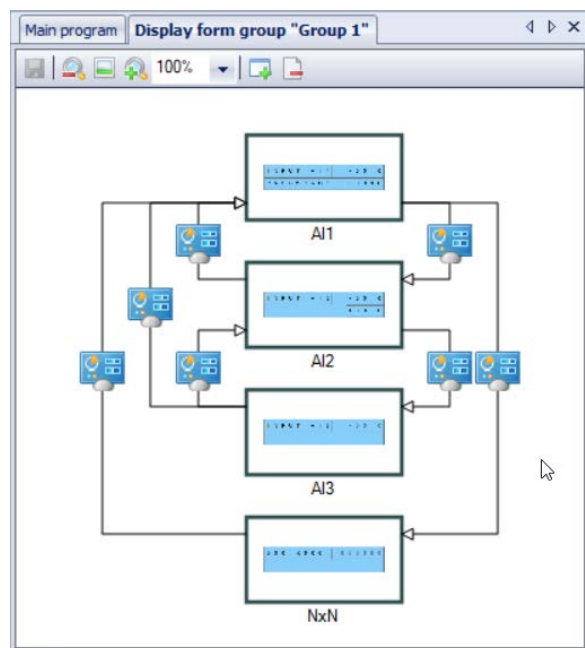

Fig. 8.2 Structure Editor
- In Structure Editor, use the toolbar icon  (Fig. 8.2).
- In Structure Editor, use the toolbar icon  or the context menu (Fig. 8.2).
If the display structure consists of more than one form, the “jumps” should be specified to enable the navigation between them (see 8.3, Fig 8.2).